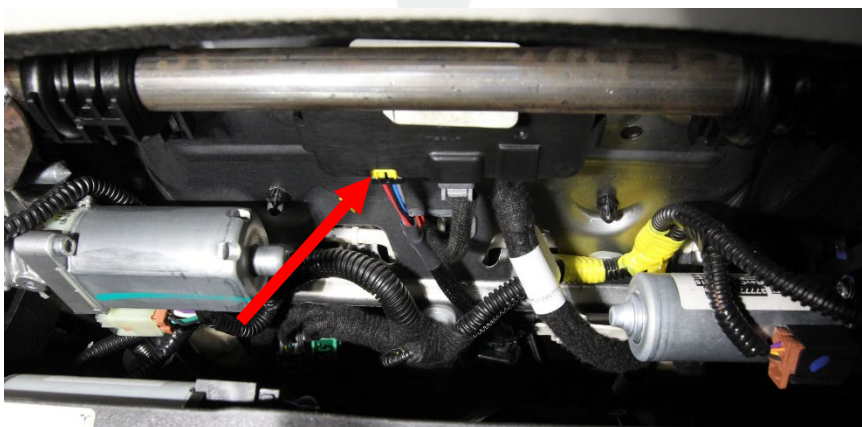

Figure 7
8. Route the OCS filter harness along the bottom of the seat, and then connect the harness to the OCS module (Figure 7).